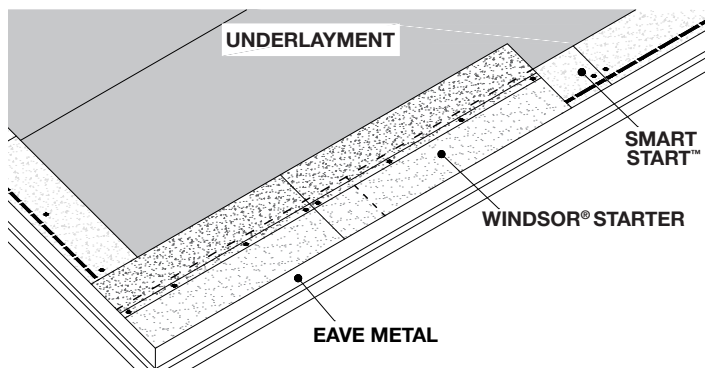

Figure 44 - Application of Windsor® Starter Shingles over Smart Start™ at the Eave Edge of Roof
Fasten with four (4) nails placed in-between the nailing lines: one (1) nail 1" (25 mm) from each end and the other two (2) evenly spaced on the same line as the end fasteners. (See Figure 44)